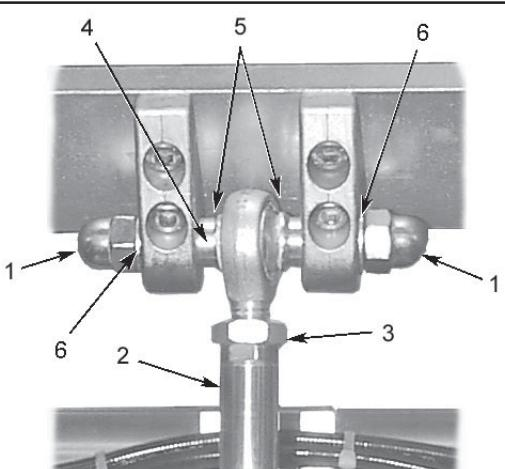

Fig. 17 Top of Trendelenburg cylinder
- x Remove the two dome headed nuts (item 1, Fig. 17) and plain washers from the Trendelenburg cylinder pivot pin on the underside of the long trunk assembly. Remove the pivot pin (item 4, Fig. 17) and disconnect the Trendelenburg cylinder ram from the long trunk assembly. Collect the two spacers (item 5, Fig. 17) which are fitted on the pivot pin.
- iii Attach the eye-end of the Trendelenburg cylinder to the pivot plates on the cross member of the long trunk assembly as follows (refer to Fig.17 and Fig. 19 as required) :